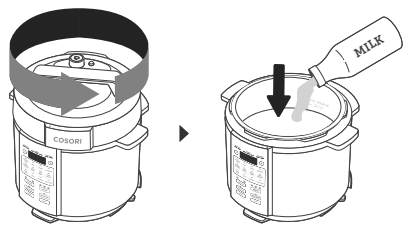

Figure 7.1
1. Twist the lid anticlockwise and lift to open. Add the milk to the inner pot. [Figure 7.1]